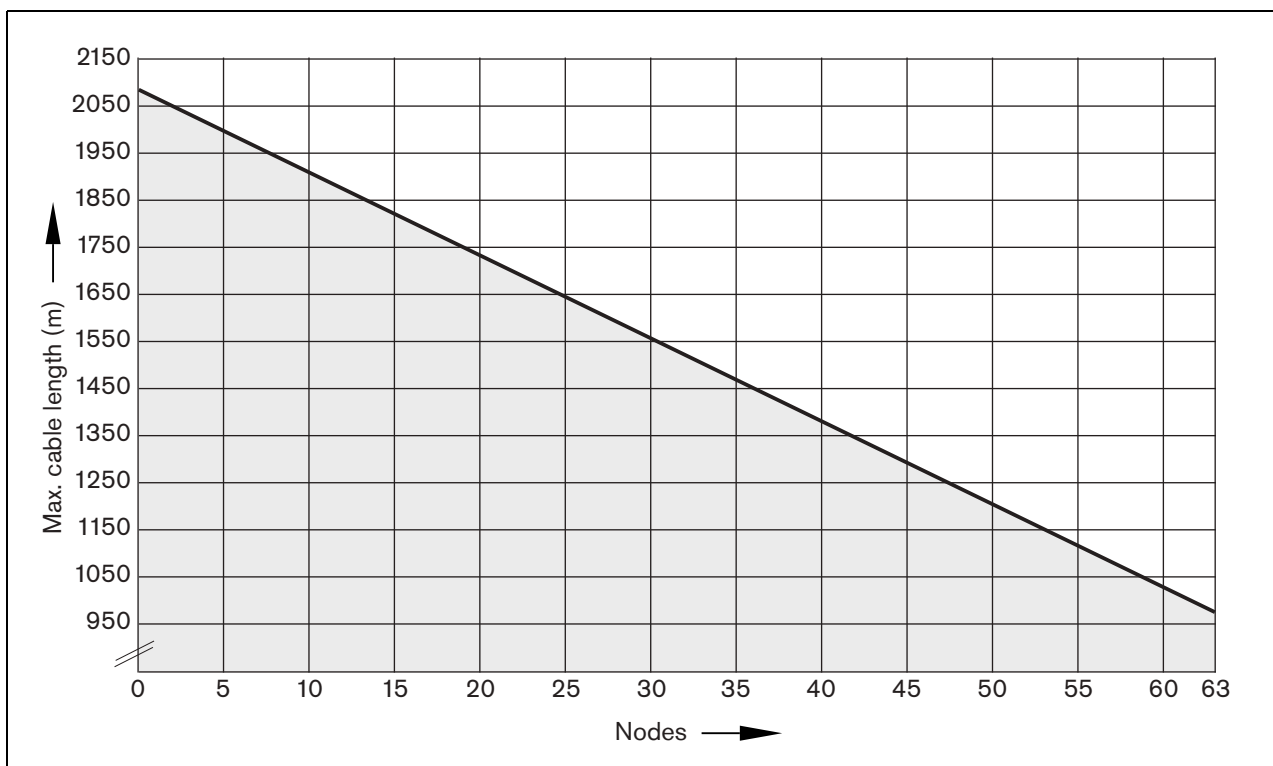

figure 3.2: Cable correction graph
- 2 With the value of step 1, use the graph (refer to figure 3.2) to find the maximum cable length without LBB4414/10 Fiber Interfaces.